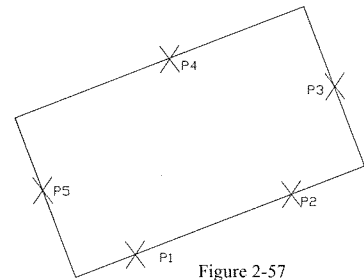

Figure 2-57
- I. The 5 points targeted from the rectangle are shown as in figure 2-57, the first point and the second point must be on the same line of the rectangle. The remained 3 points are on the other lines of the rectangle, respectively.